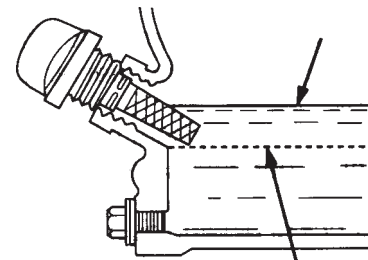

Figure 20. Engine Oil Dipstick (Oil Level)
4. If the oil level is low (Figure 20), fill to the edge of the oil filler hole with the recommended oil type (Table 5).